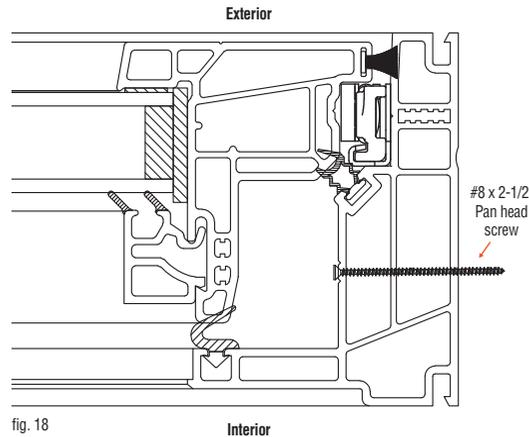

fig. 18
a. Pre-drill 1/8" holes in the location shown on **fig. 18**.
d. Fasten the window through the main frame with #8 x 2-1/2" Pan head screws. (**fig. 18 & 19**)